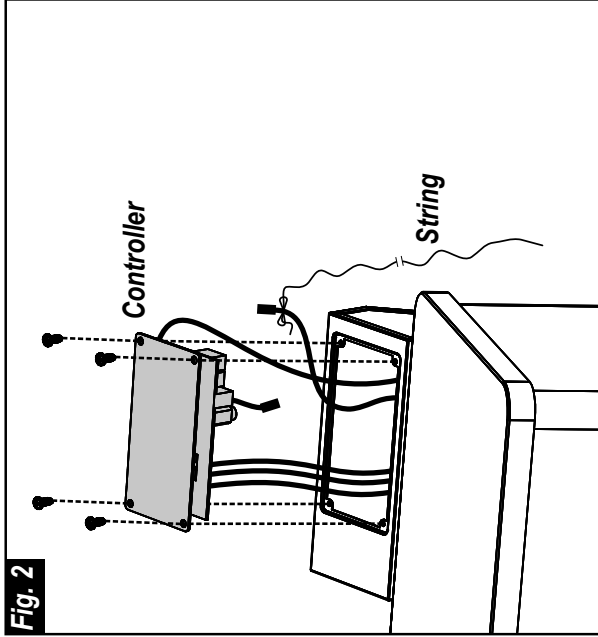

Fig. 2
5. Disconnect element from controller (**Fig. 2**).